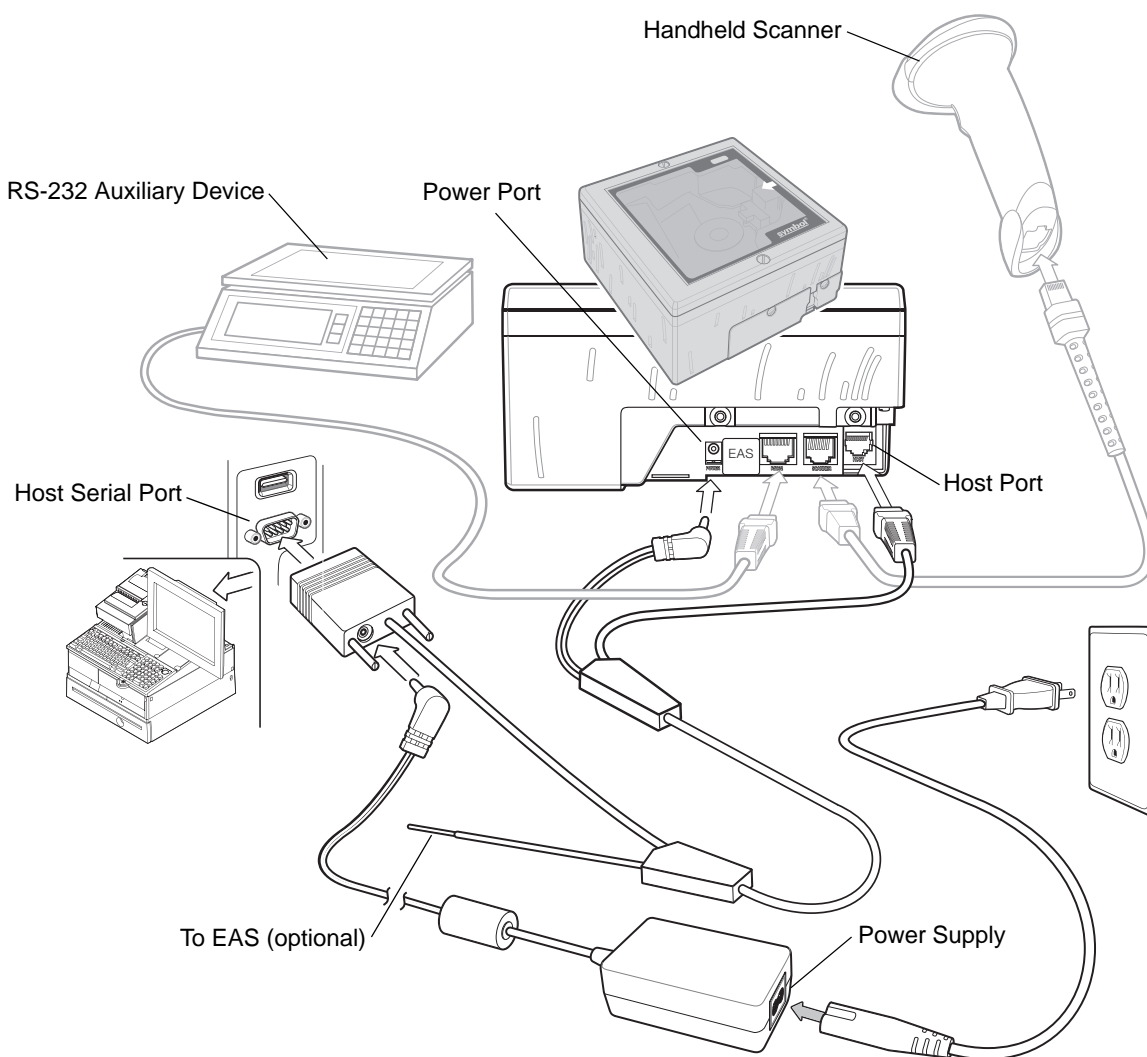

Figure 6-2 RS-232 Connection with Peripherals - Power Supplied Externally
3. Connect the peripherals, if any, to their respective ports (see Figure 6-2).